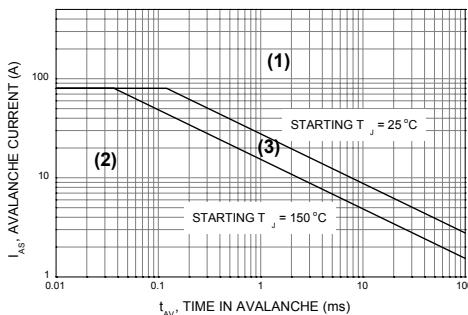

Figure 3. UIS Capability, FDP050AN06A0
The UIS Rating System is very useful in dealing with avalanche situations. There are three areas in the UIS SOA graph as indicated in Figure 3 : (1) above and right of the  $25^{\circ}\text{C}$  line, (2) below and left of the maximum junction temperature line, (3) in between the two lines. (1) and (2) are easy to determine: the device is within the UIS rating ((2)), or beyond the rating ((1)). But the junction temperature of the Power MOSFET at the start of the UIS pulse is required to determine (3). The junction temperature analysis methods will be discussed later in detail.